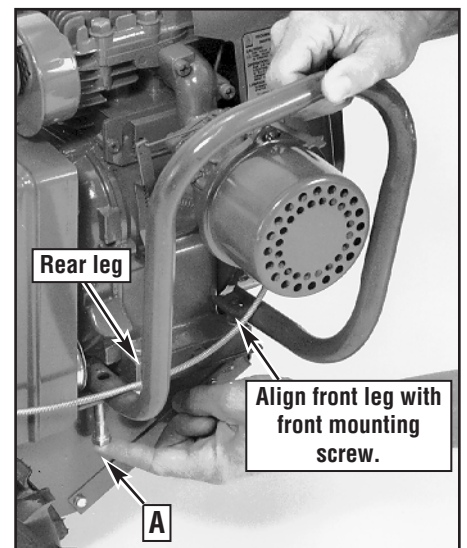

Figure 2: Loosely attach rear leg of side bumper to top of engine support bracket.
1. On the right side (muffler side) of the engine, position the rear leg of the side bumper on the top edge of the engine support bracket as shown in Fig. 2. Then insert the new 1-1/2" long screw (A) up through the holes in the support bracket and the rear leg. Add a new spring lockwasher and hex nut and tighten finger-tight.